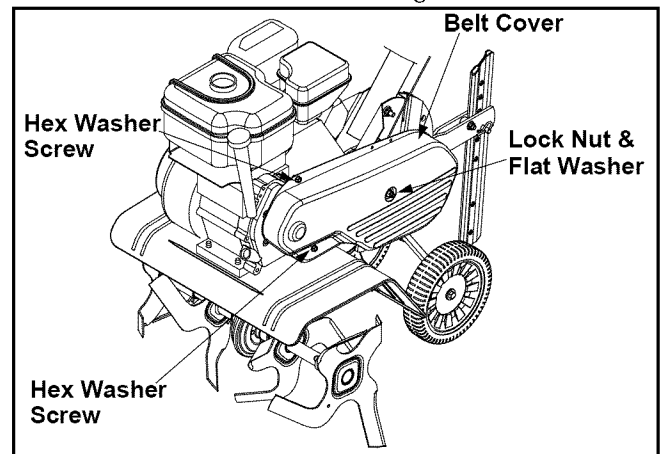

Figure 11
- Remove the belt cover. See Figure 11.